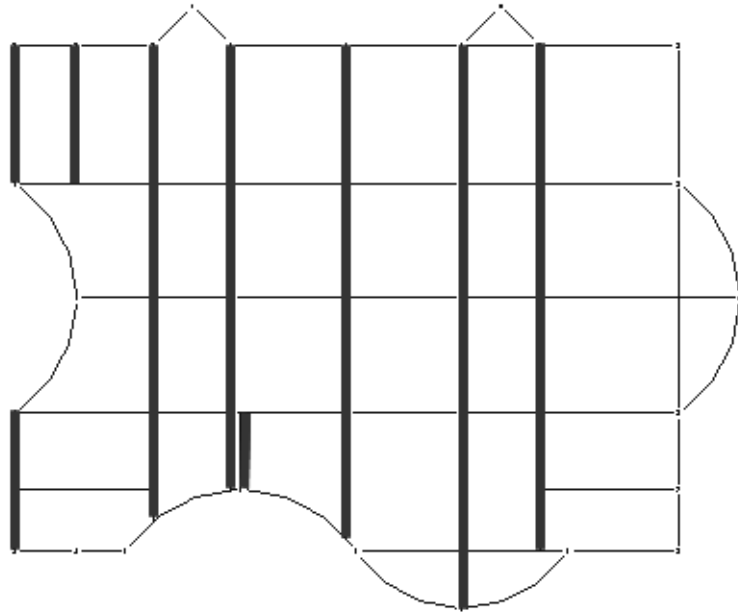

Figure 7–52
4. For this level you need to lower the perimeter beams of each bay in the North-South direction for the joist bearing. Select all of the vertical beams in the plan, excluding the beams along the far right, as shown in Figure 7–52.